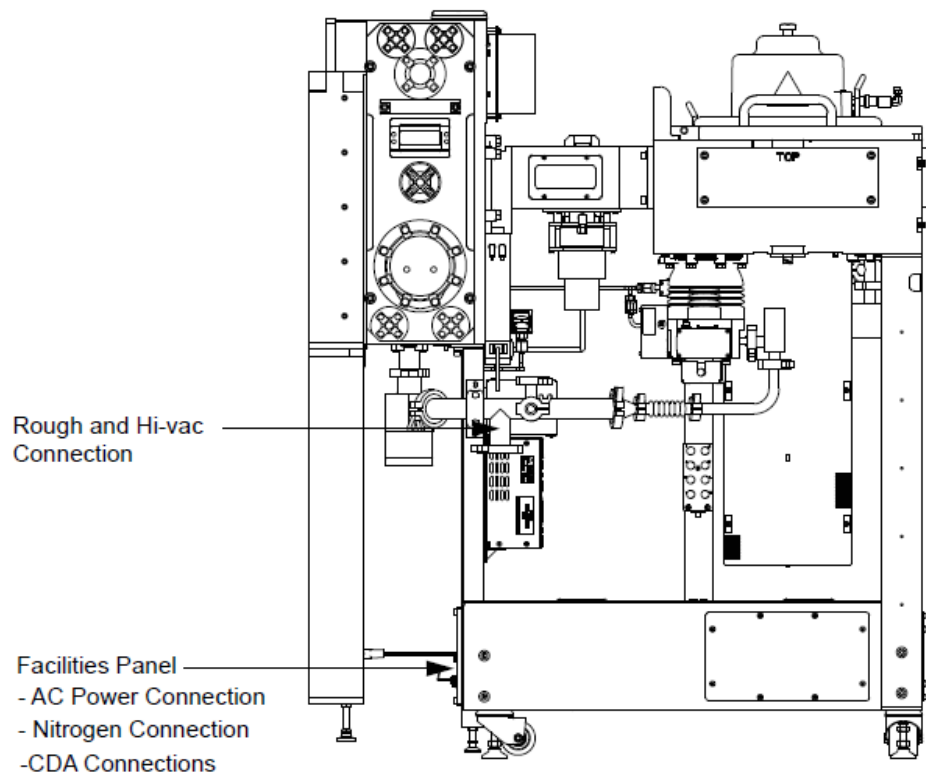
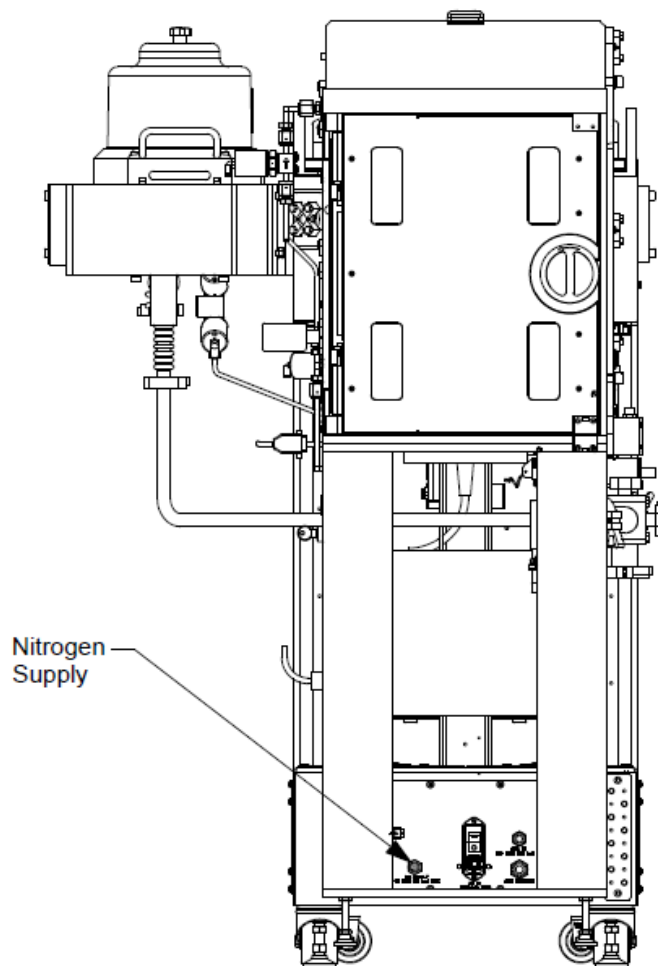

Figure 3-8: Micro Marathon Express Interface Locations
Figure 3-10: Gas and Vacuum Connections
1.	Connect the nitrogen line from the facility to the Nitrogen connection on the MMX system as shown in Figure 3-8 and Figure 3-10 .
An appropriate user supplied vacuum system must be connected to the MMX Vacuum Back End to provide the desired pump-down times for the vacuum chambers. Refer to "Facilities Specifications" on page 20 for vacuum requirements and Figure 3-8 and Figure 3-10 for vacuum system connections.
1.	Connect the facility's rough-vacuum system to the MMX as shown in Figure 3-10 . NOTE: Do not turn on the vacuum connection until all connections to the MMX and all installation procedures have been completed.